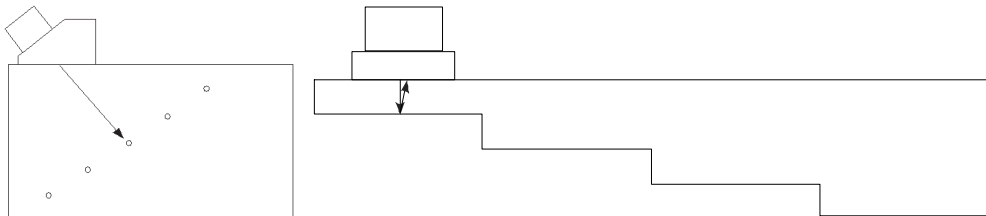

Figure 5-20 Calibration blocks for the TCG calibration
1. Place the probe on a calibration block, as shown in Figure 5-20 on page 138.